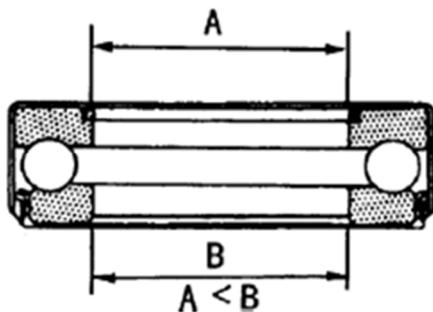

Figure 3-26.
- 2) Temporarily assembling the shunt articulation, washer, thrust ball-bearing (Figure 3-26).